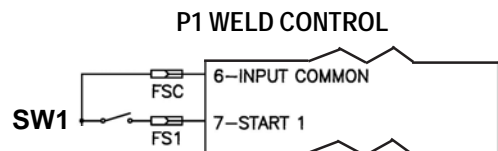

Figure 9-19. *Control input connection*
1. Connect initiation switch SW1 to connector P1 as shown in Figure 9-19.
1. Connect initiation switch SW1 to connector P1 as shown in Figure 9-19 (see Section 9.5.1).